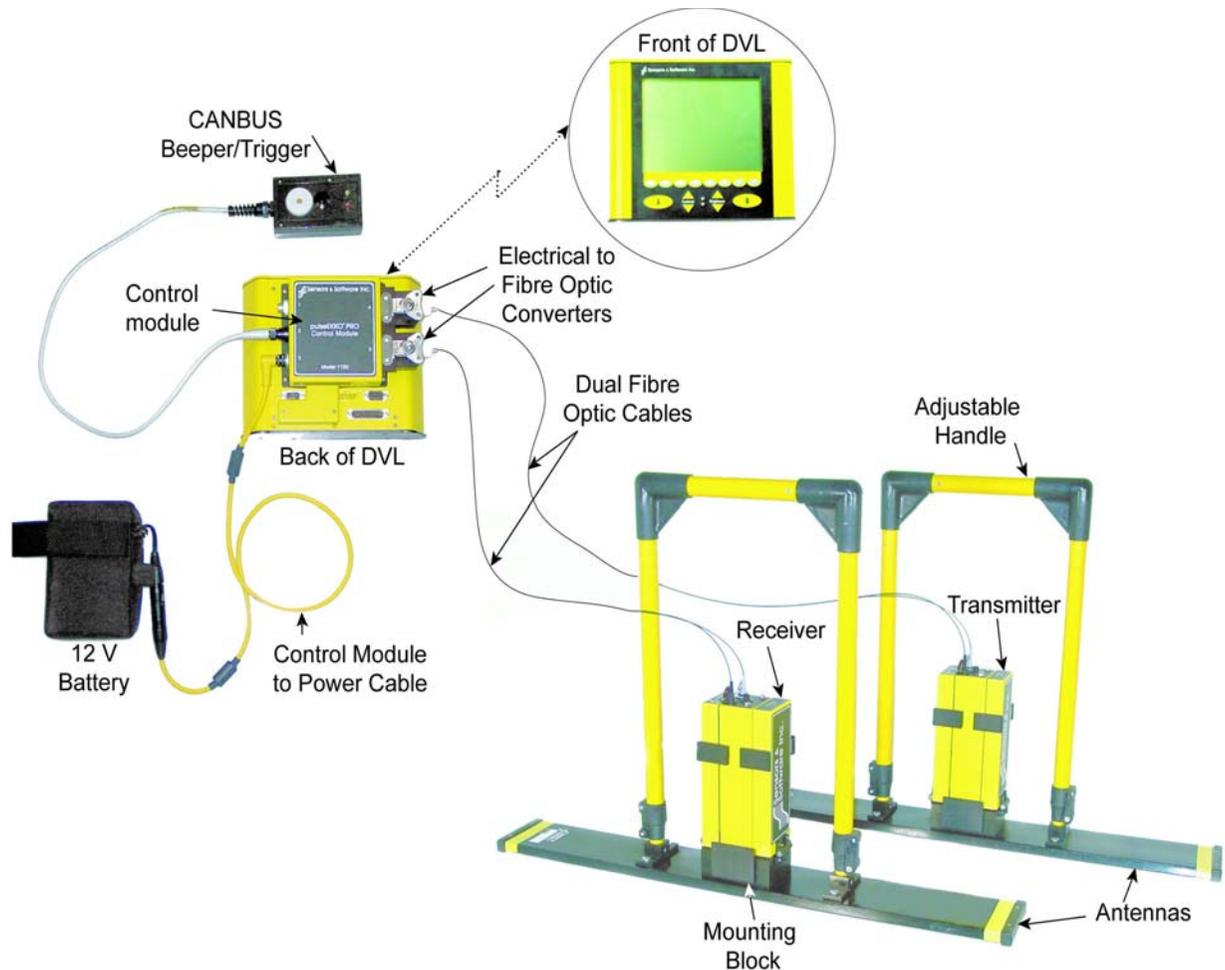

Figure 3-1: The complete low frequency pulseEKKO PRO hand held Assembly
- b) To connect the pulseEKKO PRO in the standard configuration shown in Figure 3-1, plug the dual fibre optics cable into the transmitter making sure the colour on the strain relief jacket matches the colour of the receptacle door, black to black and grey to grey (Figure 2-13). Confirm that the fibre optic connection is seated properly by pushing down gently until the connection “clicks” into place.
This section describes the assembly of the Full Bistatic system pictured in Figure 3-1.
This section describes the assembly of the One Man system pictured in Figure 4-2. It is very similar to the Full Bistatic system pictured in Figure 3-1 except for the different handles.